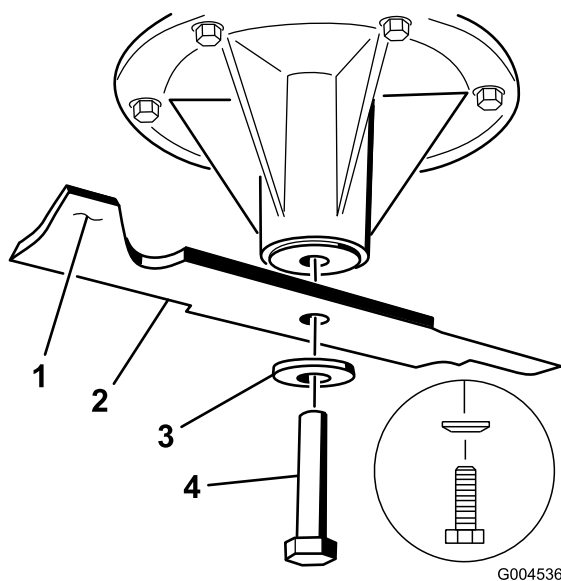

Figure 99
1. Install the blade onto the spindle shaft (Figure 99).
2. Install the spring disk and blade bolt (Figure 99).
Note: The spring-disk cone must be installed toward the bolt head (Figure 99).